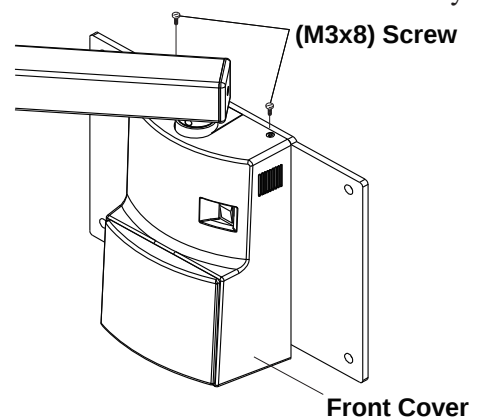

Fig.3-9B Attaching Front Cover-2
- Install two (M3 x 8mm) screws into the top of the cover and confirm that the cover is securely attached. **(Fig.3-9B)**